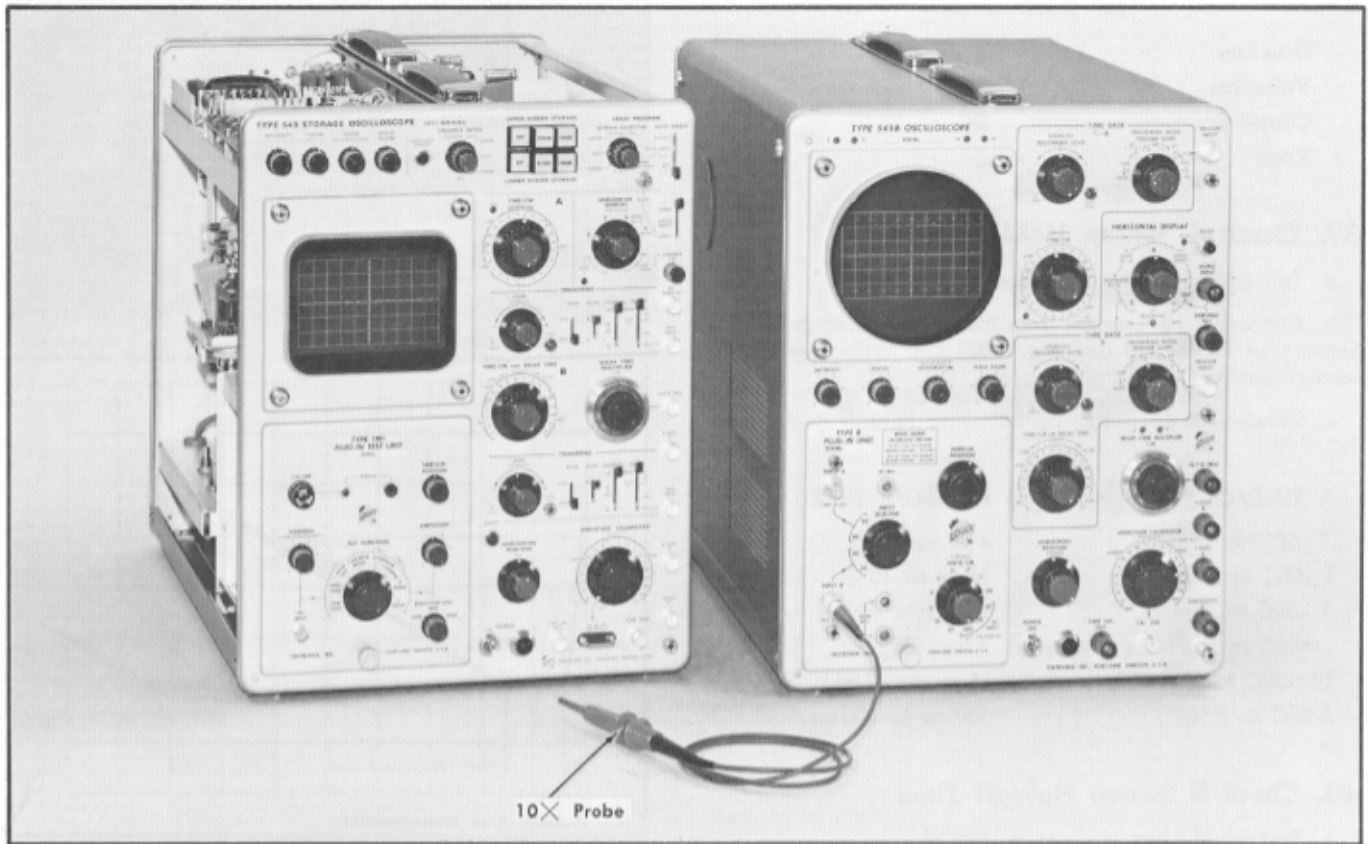

Fig. 6-37. Equipment setup for steps 41 through 45.
- a. Equipment setup is shown in Fig. 6-37.